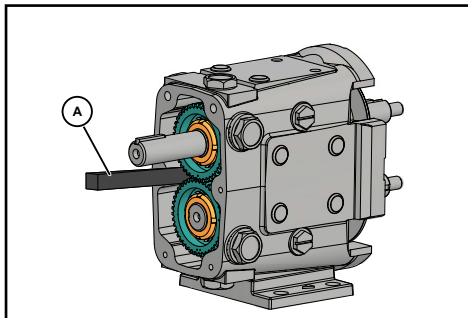

Figure 63 - Block Shaft Rotation
4. Use a wood or nylon block (Figure 63, item A) to keep the shafts from turning. If a block is not available, use rags to block the gears, or with one rotor on the shaft, block the rotor with a nylon dowel.